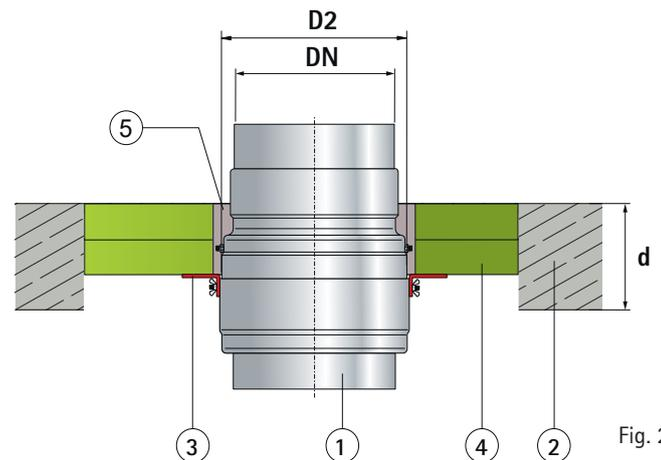

Fig. 28
5. Install a soft firestop according to the manufacturer's instructions from HILTI. Cut mineral wool boards closely to the fire protection damper. Gaps between the mineral wool boards and the fire protection damper must be filled completely with sealant to the entire thickness of the soft firestop. Position the fire protection damper with the mounting bracket flush on the upper edge of the soft firestop during installation on top of the firestop, or position the mounting bracket flush on the lower edge of the soft firestop during installation underneath the firestop (Fig. 28, Fig. 29).